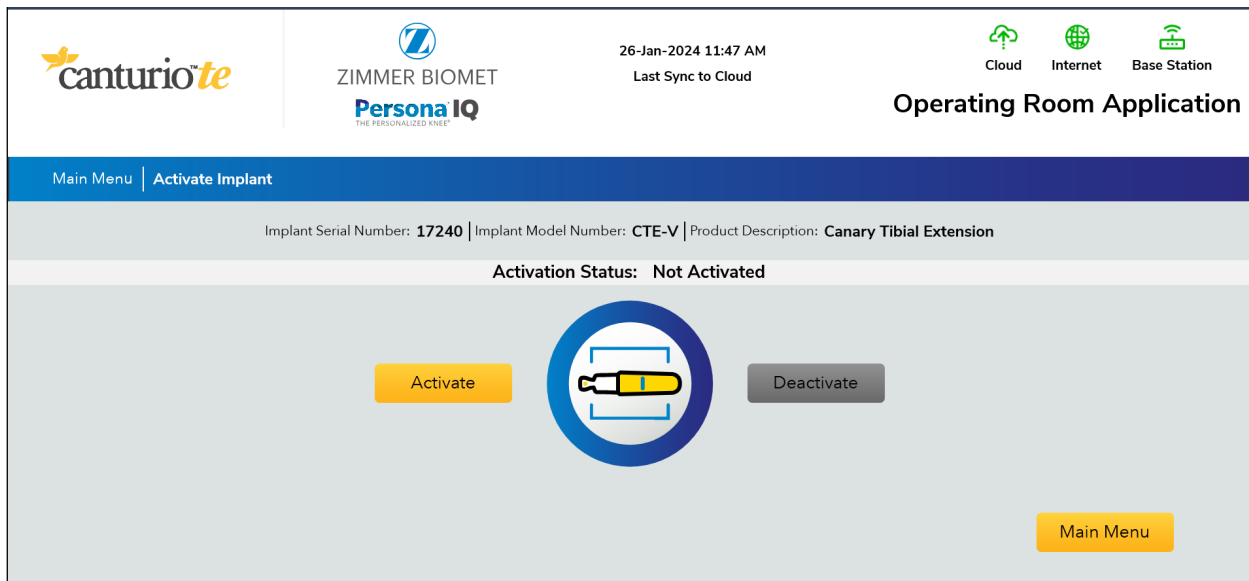

Figure 29: Implant Activation
9. Click “Activate.” Figure 29.